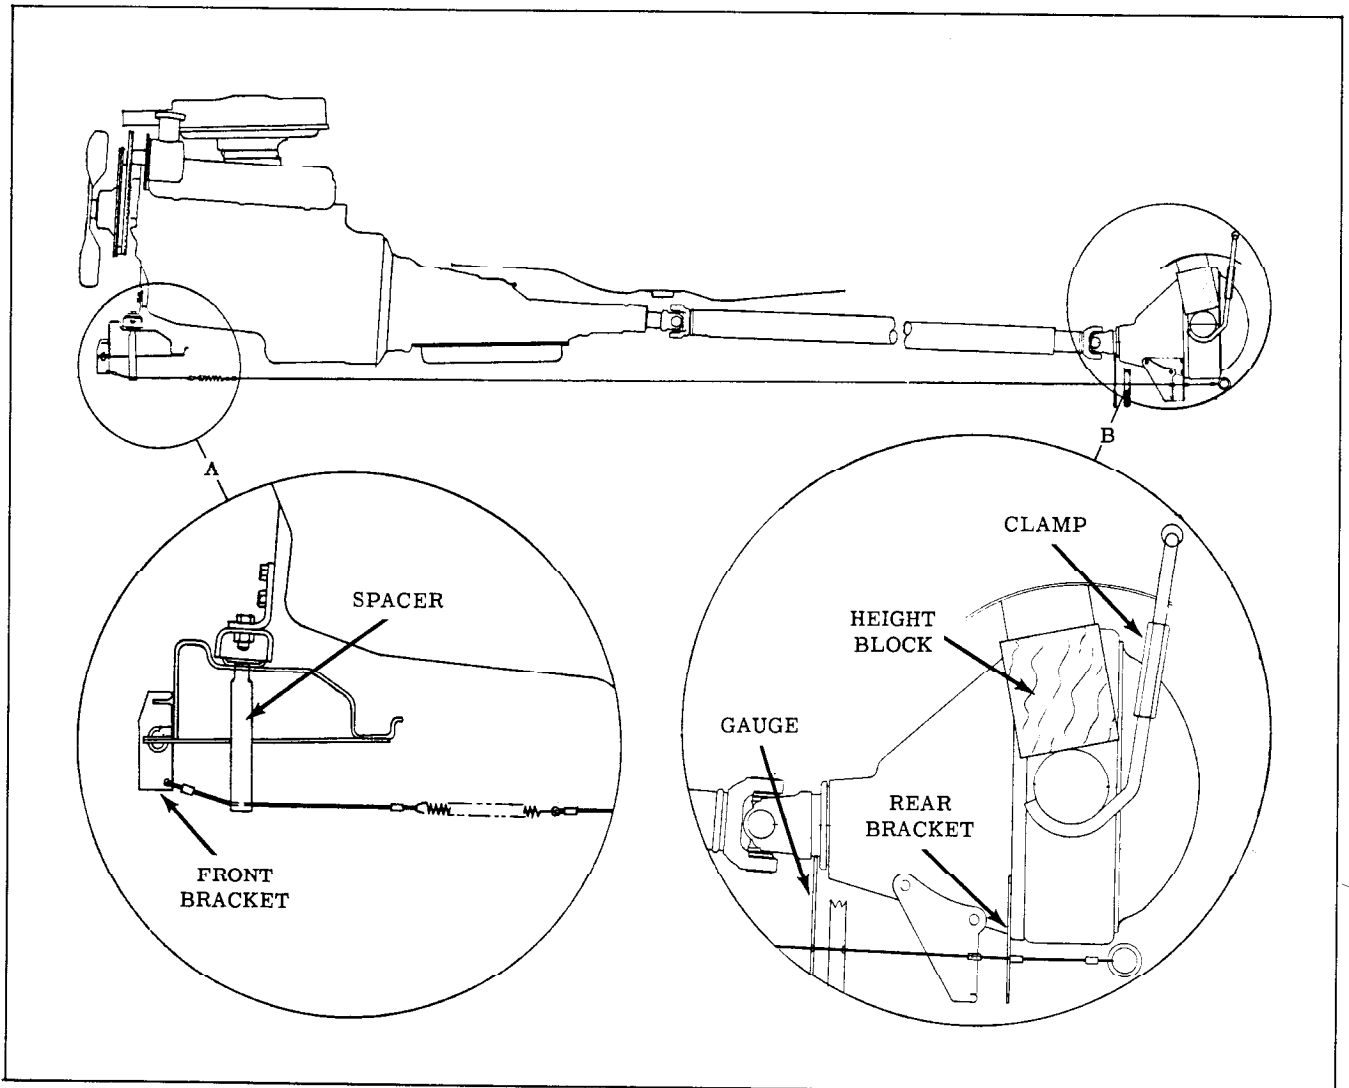

Fig. 6-47 Checking Differential Nose Angle
CHECKING AND ADJUSTING DIFFERENTIAL NOSE ANGLE (USING TOOL BT-30-1 AND BT-30-2) (FIG. 6-47)
1. Connect cable at front frame cross member. (Fig. 6-47, Inset "A")
2. Install rear bracket on the two lower right studs on differential carrier. (Fig. 6-47, Inset "B")
4. Install wooden blocks between rear axle housing and rubber bumpers. Refer to directions on blocks. Install hold down clamps around axle housing (the lower hook end should point toward front of car). Install upper hook into the 3/4" hole in frame immediately above axle housing. (Fig. 6-47 inset "B") Adjust turn buckles on clamps until wooden blocks fit snugly between axle housing and rubber bumpers.